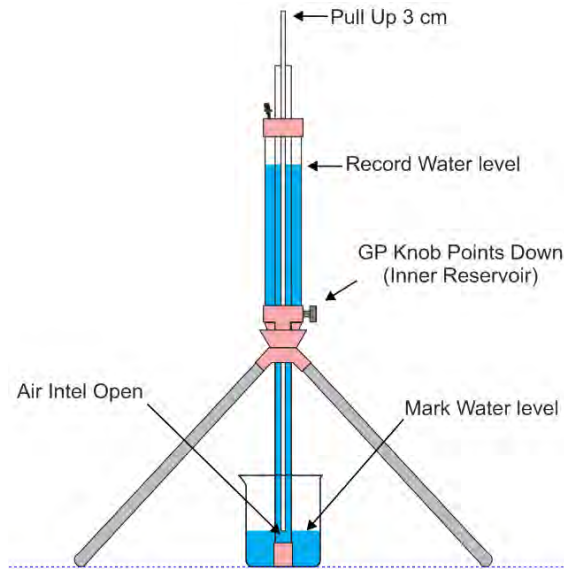

Fig. 48
**Pull up the Air Tube very slowly** to the 3 cm mark (Fig. 48). This should create bubbles in the Reservoir and establish a 3 cm water head in the Beaker.